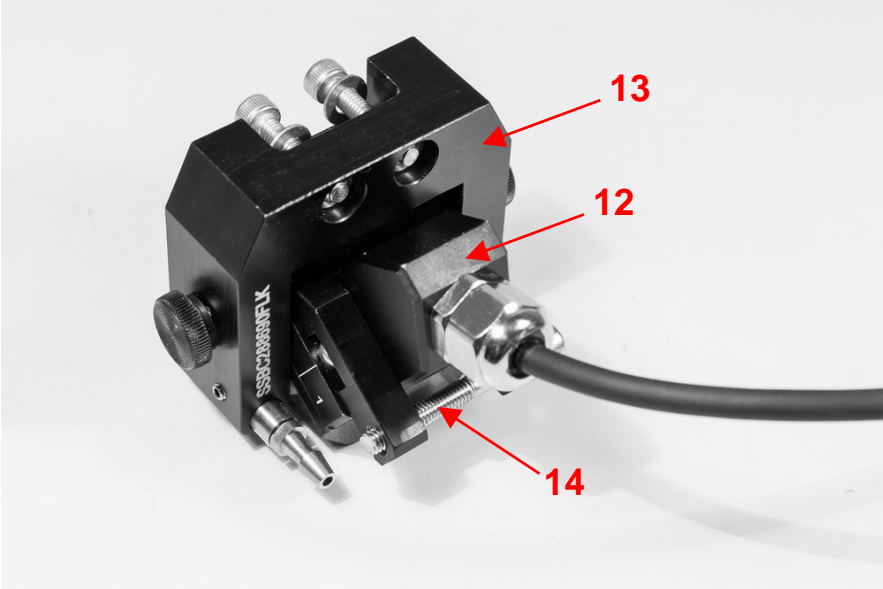

Fig. 8
- 1. Fit PA Probe 12 into Probe Holder 13 and secure it with screw 14 as it is shown on the Fig.8